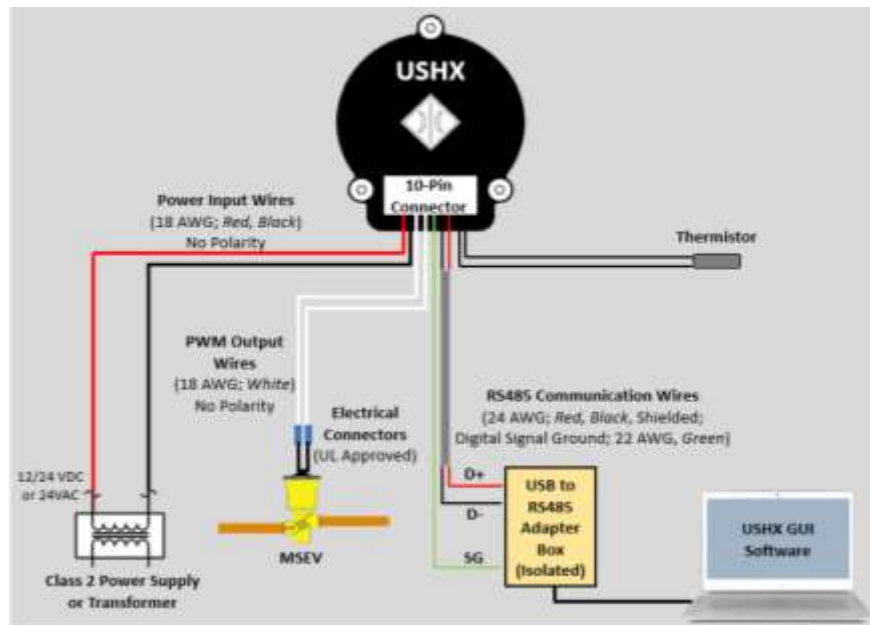

Figure 19 - Single USHC-MSEV or single USHS wiring diagram
5. The power input wires (18 AWG red/black wires) on the wiring harness should be connected to the power source as shown below in Figure 19.
- b. The wiring schemes of the ‘Single USHC-MSEV Setup’ and ‘Single USHS Setup’ are the same except that the PWM output wires of the USHS for the ‘Single USHS Setup’ process should be disconnected, terminated with wire nuts, and wrapped with electrical tape so that they do not form short circuits with each other or any other wires or metal surfaces. As for the ‘Single USHC-MSEV Setup’ process, the PWM output wires should be connected to the MSEV as shown below in Figure 19.